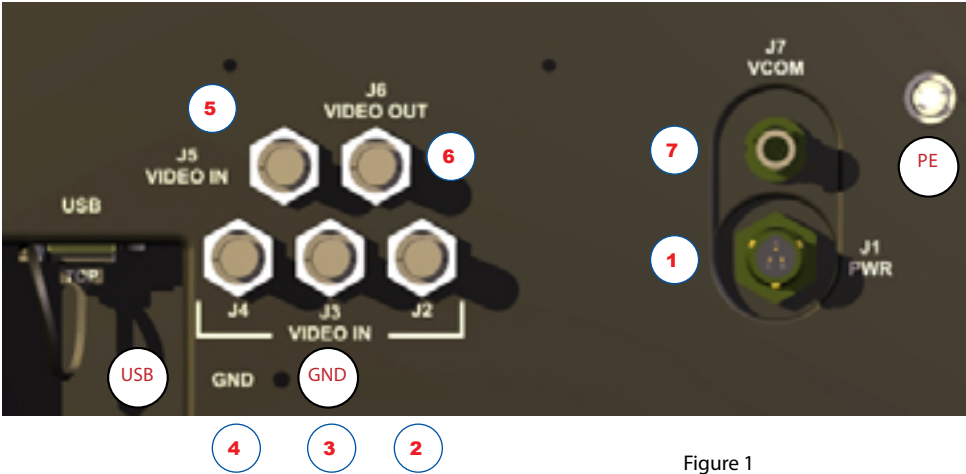

Figure 1
Connectors are located on the back of the DVR chassis. See Figure 1, Table 1 for Connector Assignments.
- Align up with J1 connector; See Figure 1, #1
- Align with J2-5, VIDEO IN connector; See Figure 1: #2 (J2), 3 (J3), 4 (J4), 5 (J5)
- Align with J6, VIDEO OUT connector; See Figure 1, #6 (J6)
- Align with J7 - VCOM connector; See Figure 1, #7 (J7)
- Align with USB connector; See Figure 1, USB
There is a Pressure Equalizer Valve on the chassis, see Figure 1, PE. See Figure 2 for close-up. In final installation, do not block or constrain valve.